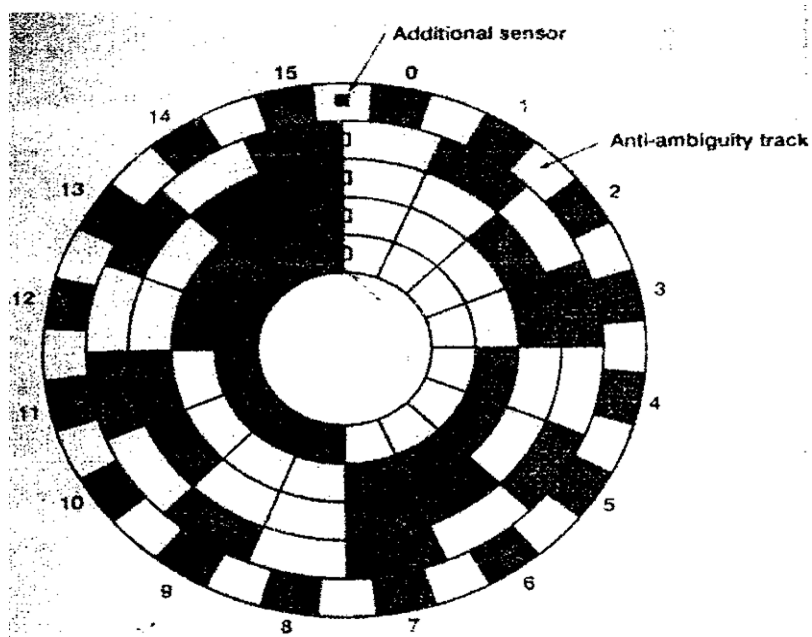

Figure 3.9 The disc with an – ambiguity track added
- 1) To add an anti-ambiguity track and an extra sensor, see Figure 3.9.